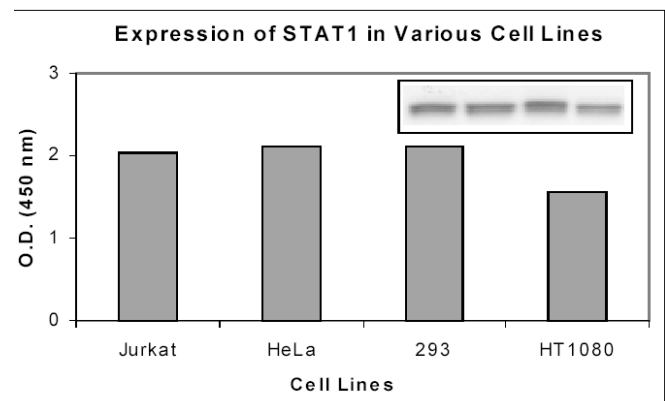

Figure 3
- The data presented in Figure 3 show that the kit detects STAT1 protein in cell lysates from human Jurkat, HeLa, 293, and HT1080 cells.